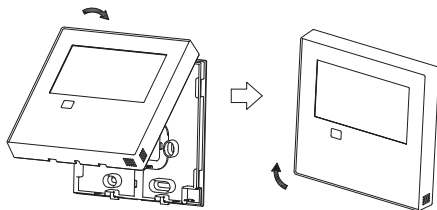

Fig 3-9
- Ensure that no wires are pinched or obstructed during reassembly. (See Fig. 3-9)